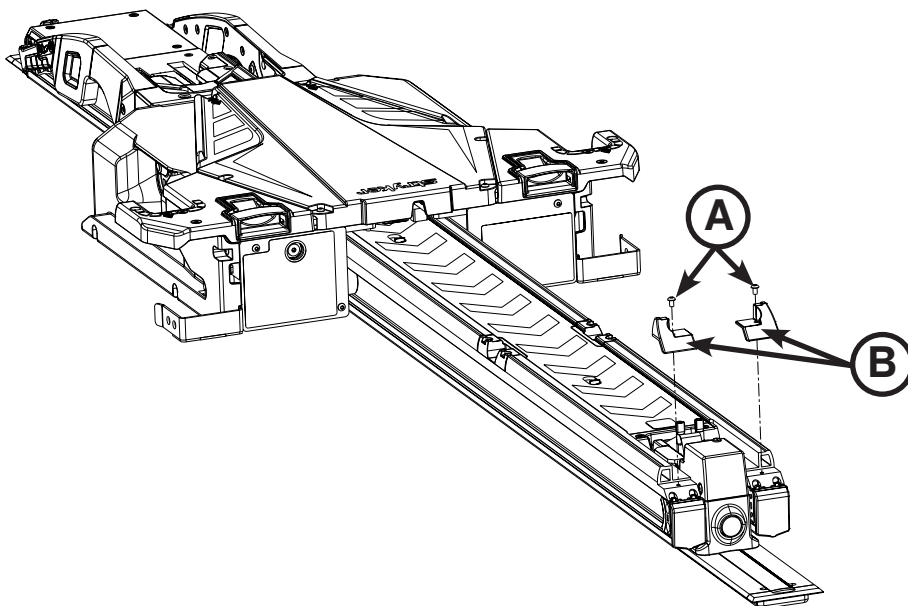

Figure 25: Attach Head End Trim
19. Using a T25 Torx driver, install the two supplied button head cap screws (0004-665-000) (A) to attach the supplied patient left transfer head end trim (6390-001-210) and supplied patient right transfer head end trim (6390-001-211) (B) to the transfer assembly as shown in Figure 25.